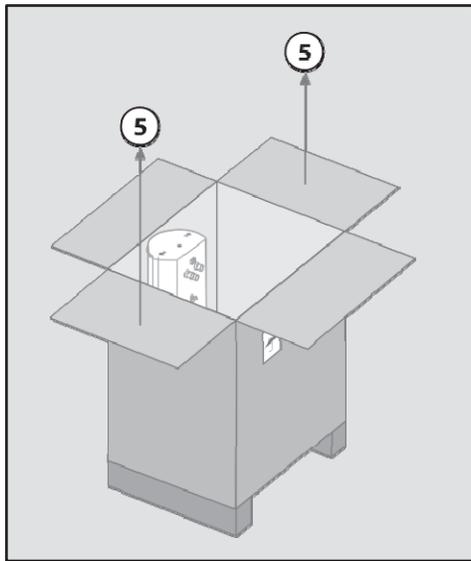

Fig 1.8: Lift the top carton.
5. Lift the top carton vertically off the pallet (see Fig. 1.8).